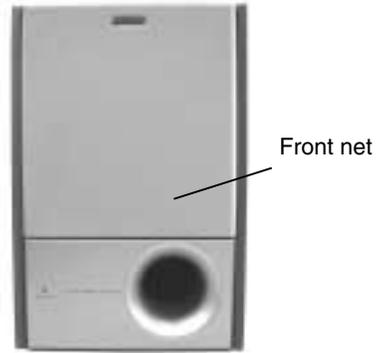

Fig.1
■ Removing the front net (See Fig.1 and 2)